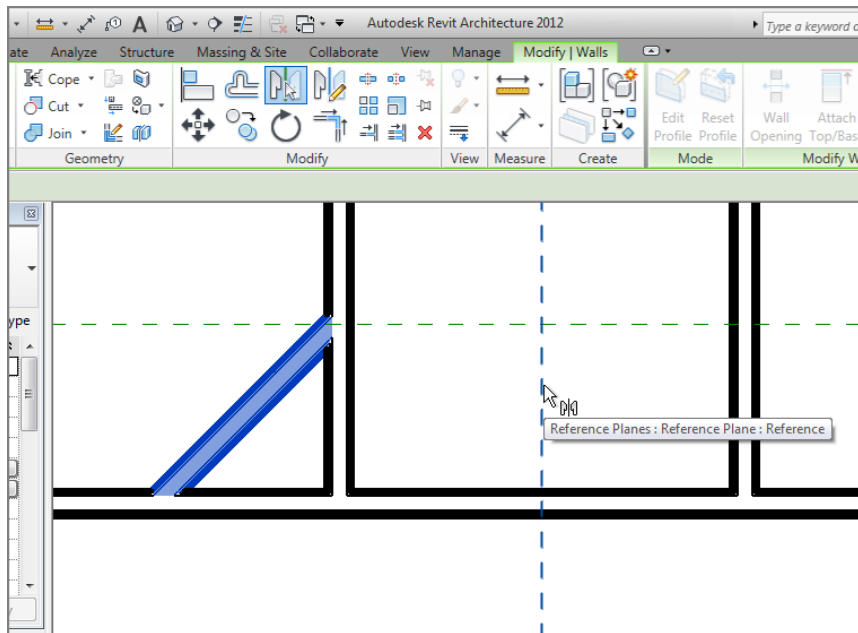

FIGURE 2.43: Using the Mirror command in conjunction with a reference plane is a good example of thinking ahead.
3. Pick the vertical reference plane, and voilà! The wall is mirrored, as shown in Figure 2.43.